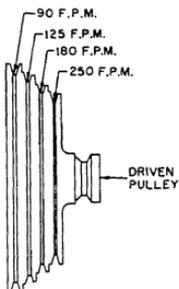

Figure 5-4.—Speed change pulley.
- Select the proper surface speed (feet-per-minute), and adjust the V-belt for that speed. (See fig. 5-4.)